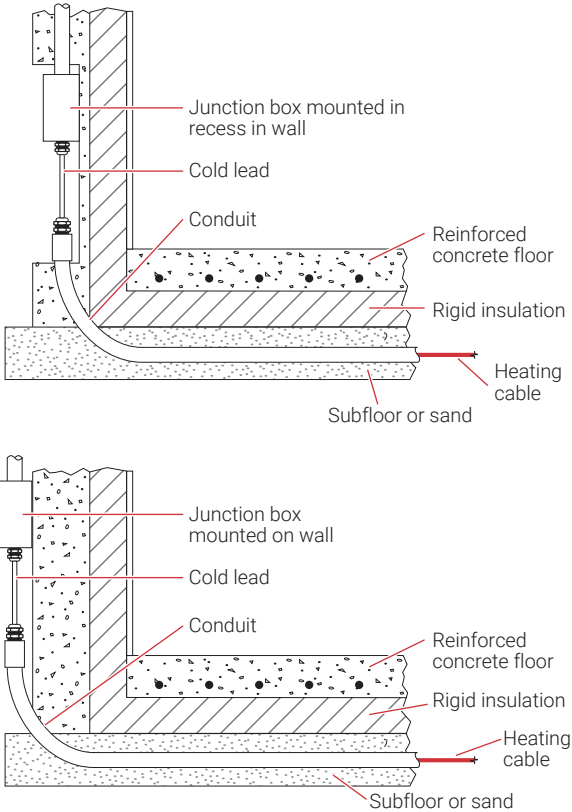

Figure 21: Typical conduit and junction box installation
5. Install rigid insulation over the compacted sand as per design schedule (see Figure 21). Insulation thickness is based on the design parameters and is usually between 2 in to 6 in (5 cm to 15 cm) thick. **Using insulation with the wrong R-value will increase heat loss, possibly causing the subsoil to freeze, leading to freezer floor damage.**